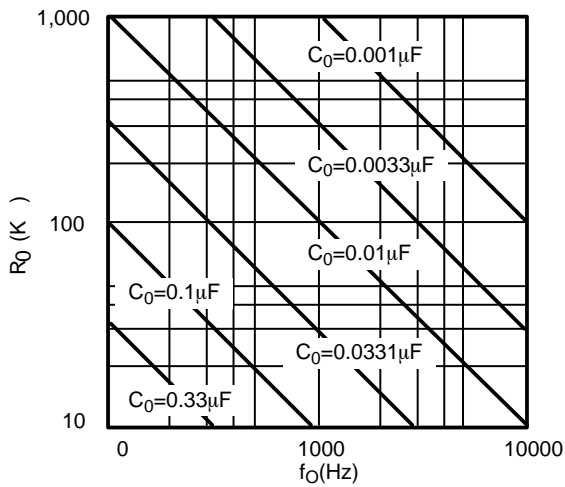

Figure 7. VCO Frequency vs. Timing Capacitor
- c) Calculate value of C_0 from design equation (1) or from *Figure 7.*:
- b) Calculate value of C_0 from design equation (1) or from *Figure 7*. $f_S = f_0$: